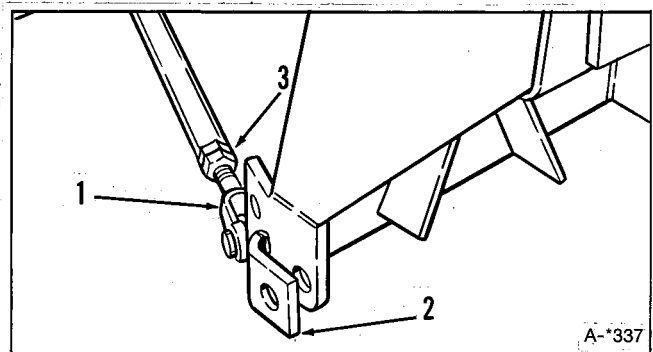

Figure 7.
- b. Connect the yokes (1, figure 7) to the hitch using pins and clips. On the right-hand side use the bottom hole in hitch as shown in figure 7. On the left-hand side, use the upper hole.
- e. Tighten the jam nuts (3, figure 7) at both yokes.